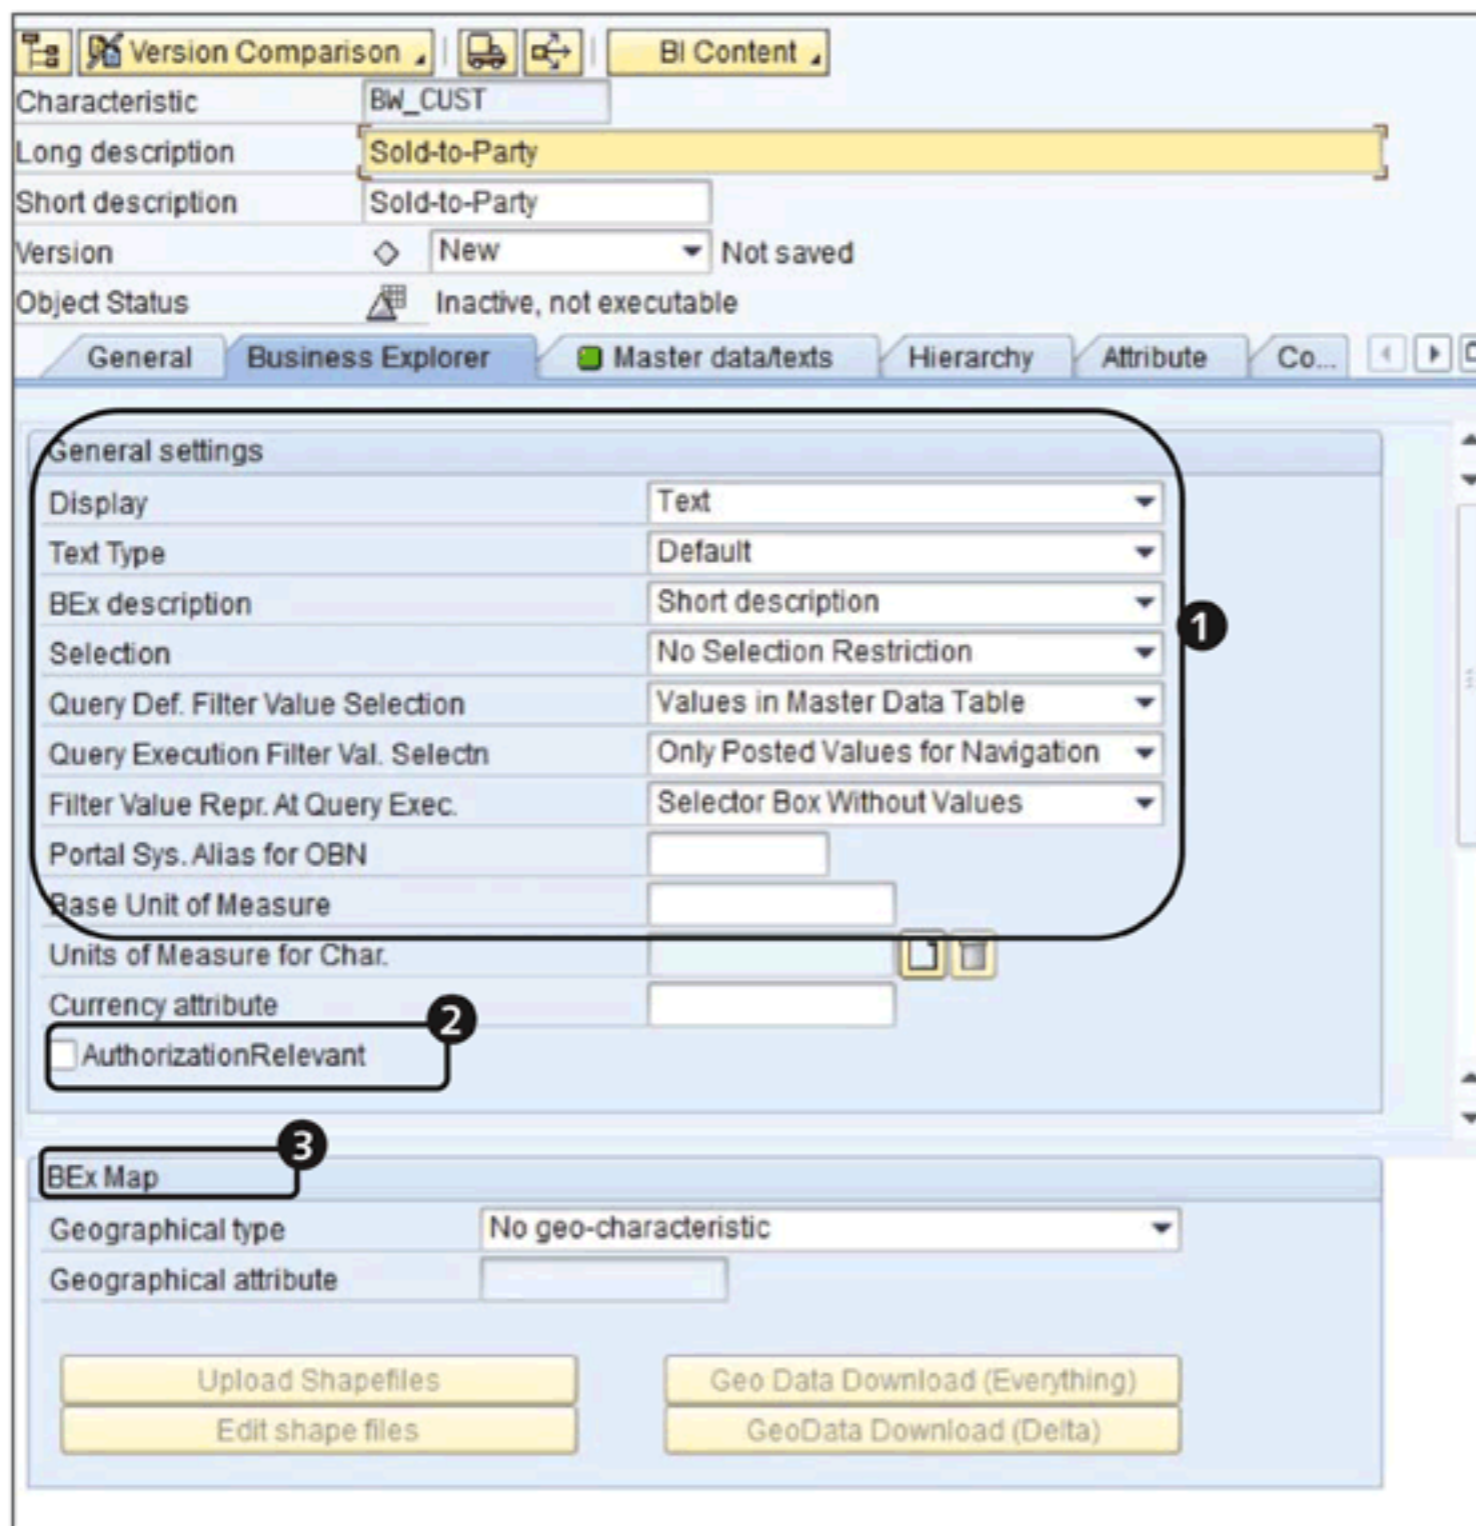

Figure 3.14 Business Explorer Tab
The BUSINESS EXPLORER tab's (Figure 3.14) settings are divided into two main areas: GENERAL SETTINGS and BEX MAP.
One of the important settings in the GENERAL SETTINGS section is the AUTHORIZATIONRELEVANT flag. As the name suggests, this option is for managing administration and access control. If you're interested in showing limited or no data relating to this InfoObject, you would check this box (❷ of Figure 3.14). Note, however, higher level organizational objects (e.g., a marketing region, marketing office, or plant) generally control the authorizations; also, additional steps are required beyond checking this box. Our case study doesn't require any access restrictions, so we leave this unchecked.
The BEX MAP area (❸ of Figure 3.14) is relevant when you want to use geographical areas as part of your analysis. Such analysis requires that you provide geographic information about the objects of analysis; for customers, for example, you might be required to upload the longitude, latitude, and height above sea level for their physical addresses. Our case study doesn't require any edits to this area.